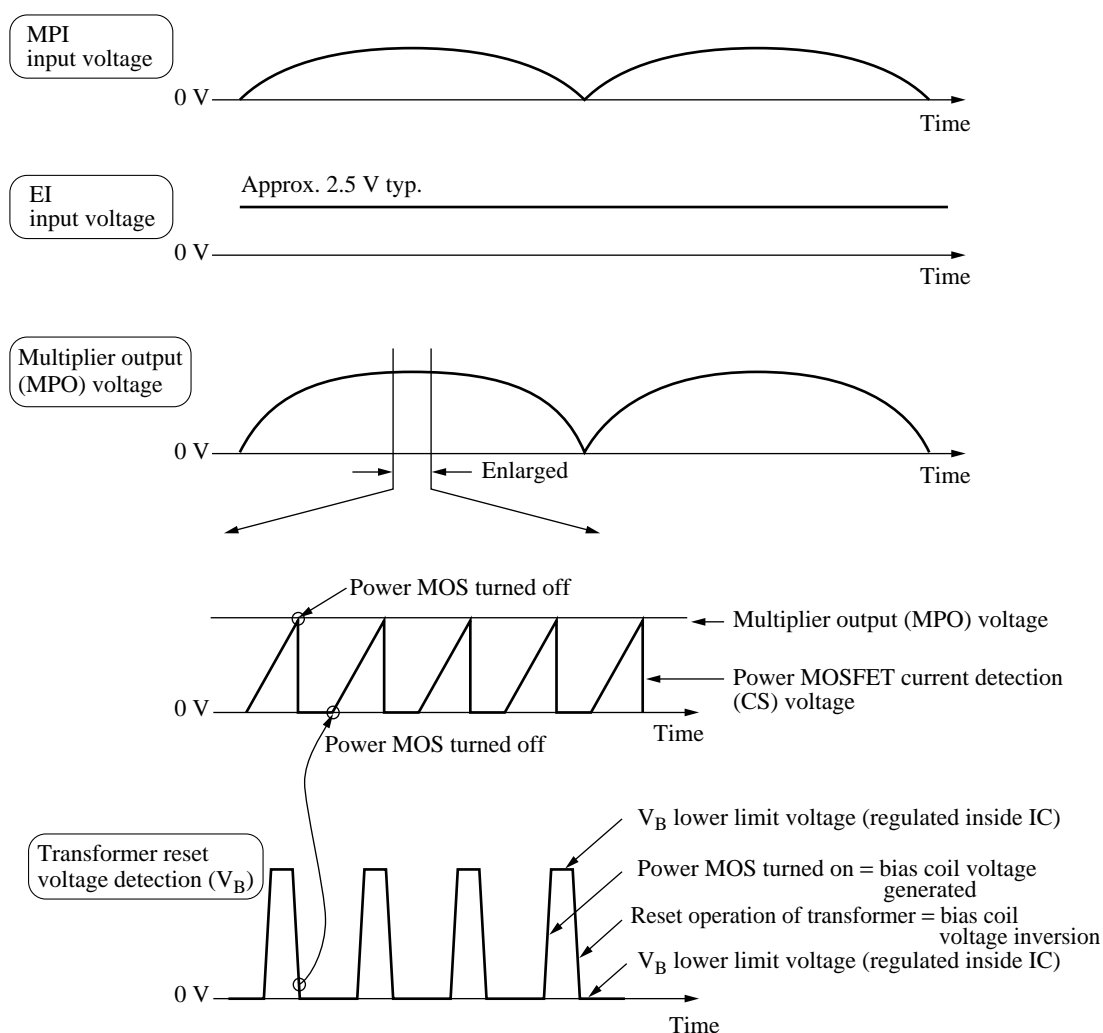
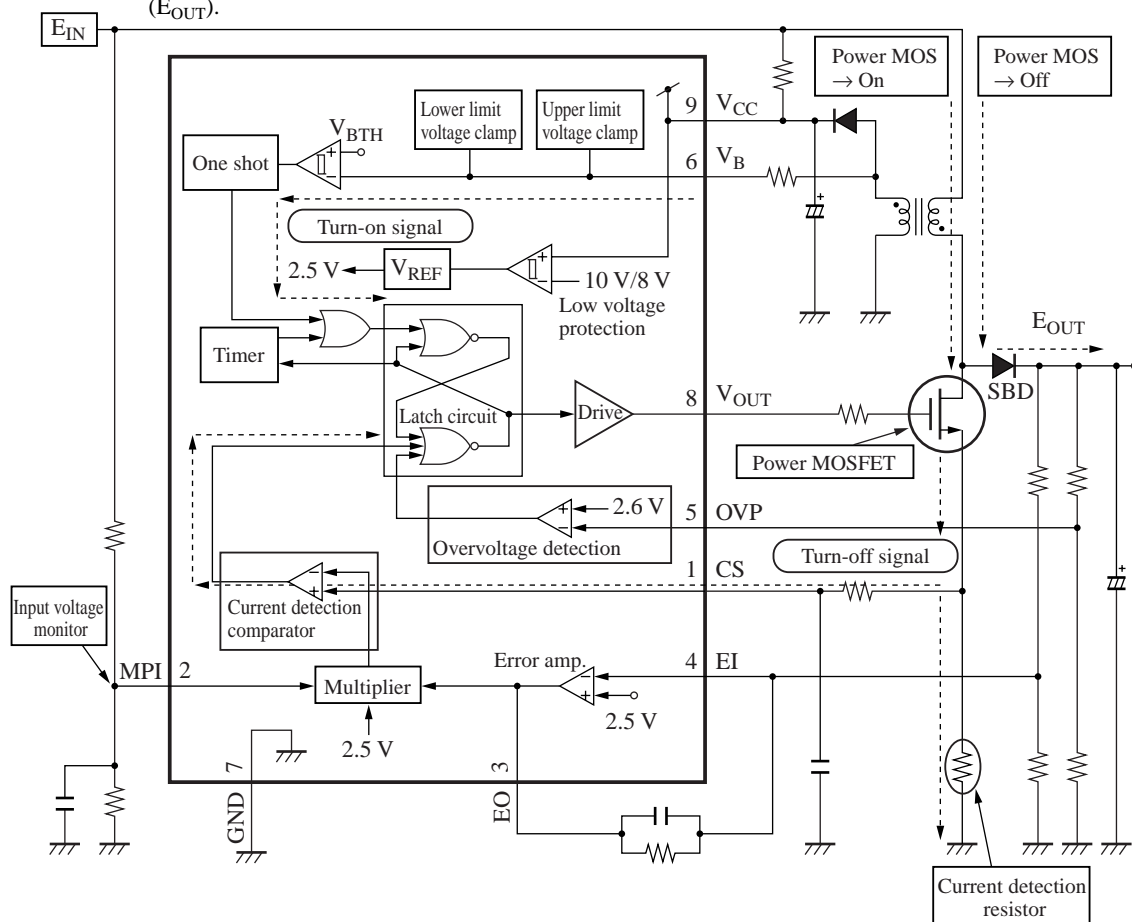

Figure 2. Explanation of normal control operation
Figure 3. Explanation of block diagram and normal operation
- 2) Control outline description (Refer to figure 2 and figure 3.)
2) Control outline description (Refer to figure 2 and figure 3.) (continued)
(4) Switching device current
(8) Switching device turn-on